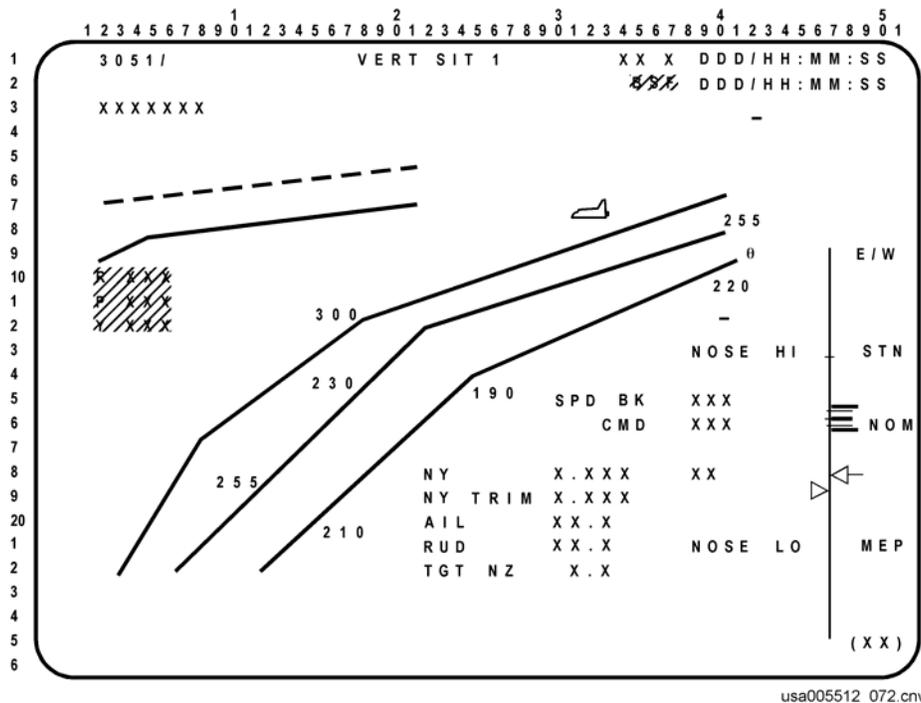

Figure 3-22. Low energy above glide slope
2. You see the following VERT SIT display (Figure 3-22). Guidance is trying to fly you even higher on the TRAJ display. What should you do?